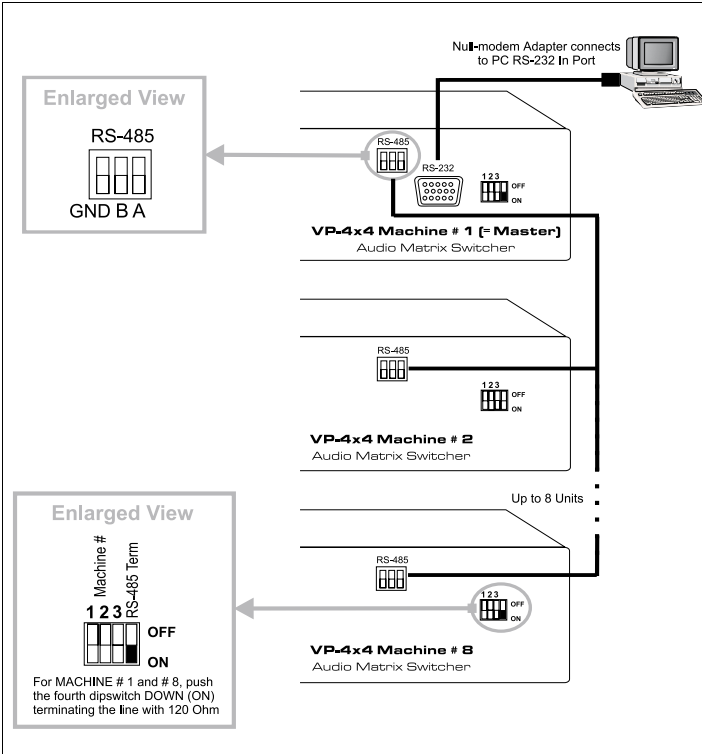

Figure 3: VP-4x4 Connections
- Connect the RS-232 DB9 rear panel port on the Master **VP-4x4** unit to the Null-modem adapter and connect the Null-modem adapter with a 9 wire flat cable to the RS-232 DB9 port on your PC, as Figure 3 illustrates
Connect a Phoenix terminal block cable connector to the RS-485 port on each VP-4x4 unit in the series¹, as Figure 3 illustrates.
The VP-4x4 includes a set of 4 dipswitches, as Figure 3 illustrates above. You configure each VP-4x4 unit by setting the dipswitches as follows: